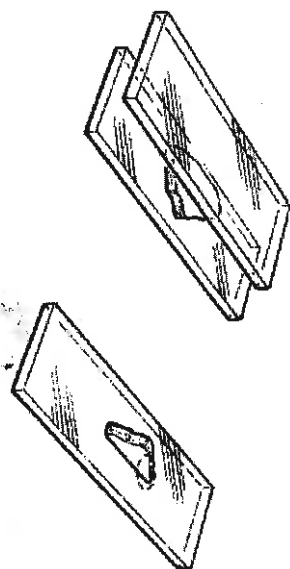

Figure 18 Cutting a Wedge-Shaped Sample
1. Place the sample between two offset glass slides. Allow a triangular portion of the sample to protrude as shown on the left in Figure 18.
- To mount the sample, rotate it so that it is positioned as shown on the right in Figure 18.
- Position it under the imager so that the infrared beam goes through the thin end of the wedge (circled in Figure 18).